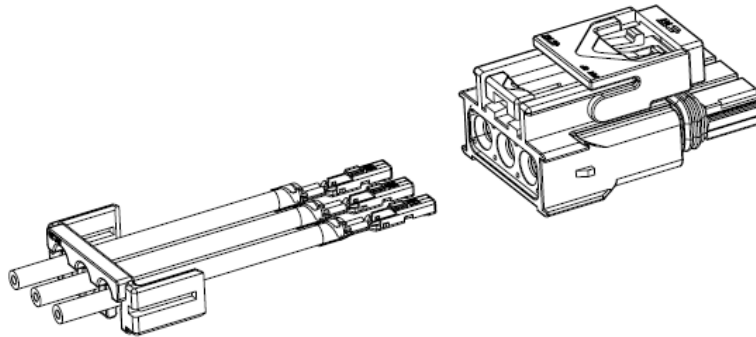

Figure 11
3. Align the terminated tab or receptacle contact with the appropriate cavity at the back end (wire side) of the plug or cap housing. This alignment is to help ensure that the gang seal will not be damaged during the insertion process. See Figure 11.